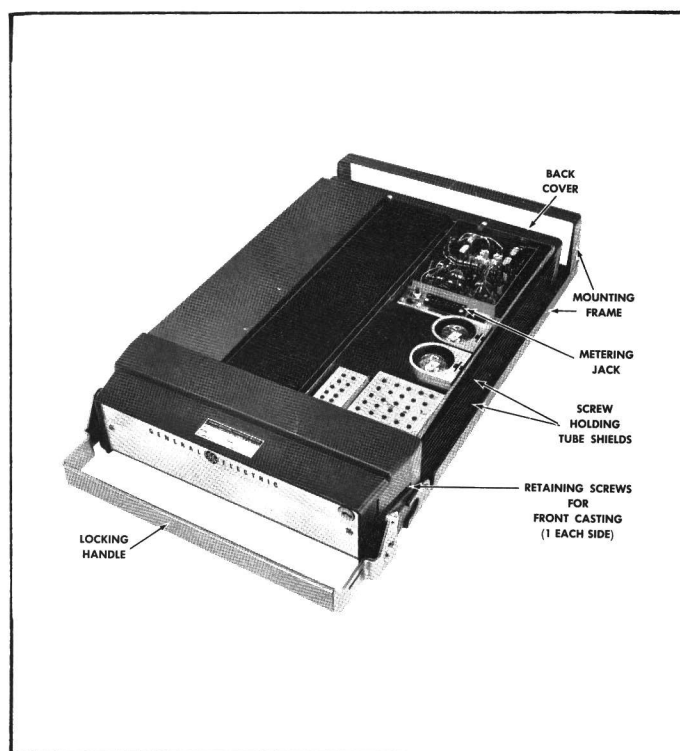

Figure 2 - Top Cover Removed
1. Loosen the two retaining screws in the front casting (see Figure 2) and pull away from the system frame.